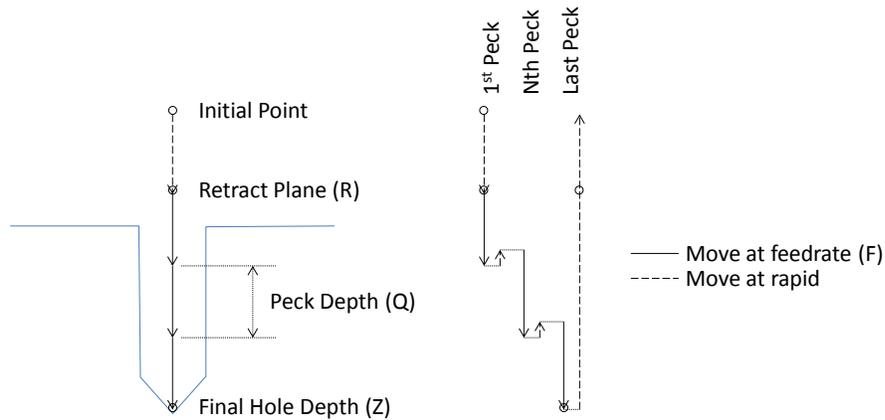

FIGURE 20 MOTION OF TOOL POINT FOR G73 CYCLE. END Z POSITION WILL BE DETERMINED BY G98/99 SETTING
**G73 – High Speed Peck:** In materials that produce long stringy chips a high speed peck cycle can be used to break them up. Unlike the G83 cycle that retracts completely out of the hole after each peck, the G73 cycle only retracts .100 inch. See figure 20. This short retract helps to reduce cycle times when a complete retract is unnecessary. The format: